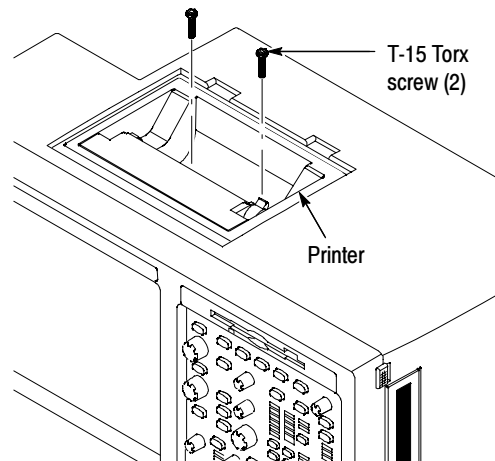

Figure 2: Printer screw mounting
- c. Remove the accessory tray or internal printer (two T-15 TORX-drive screws). See Figure 2, on page 8.